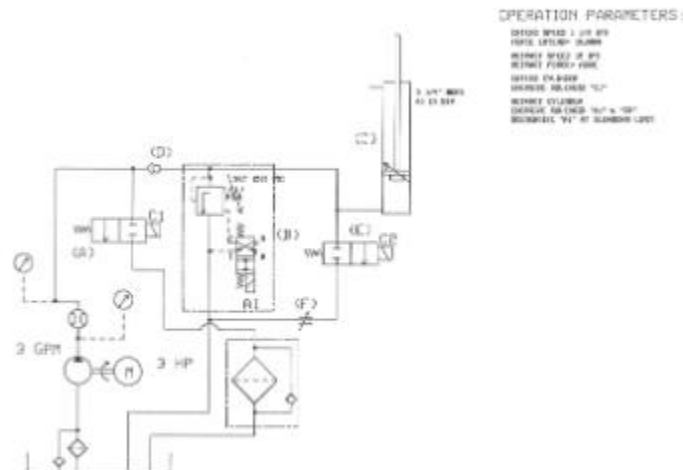

Fig. 23-7. Circuit operating increment feeder for cardboard sheets. Shown with cylinder extending.
Energizing solenoid C1 on directional valve (A) sends pump flow to cylinder (C), making it extend as diagrammed in Figure 23-7. This action takes place as fast as directional valve (A) shifts because the pump is at full flow. Cylinder (A) extends at 1.50 ips at a maximum force of 10,000 lb, as long as solenoid C1 stays energized.